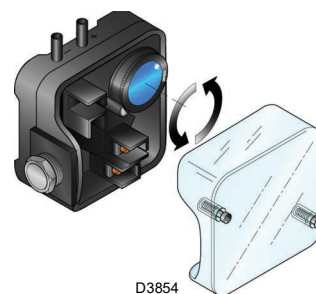

Fig. 26
- Adjust the air pressure switch (Fig. 26 on page 27) to the start of the scale.
Adjust the air pressure switch after performing all other burner adjustments with the air pressure switch set to the start of the scale (Fig. 26).